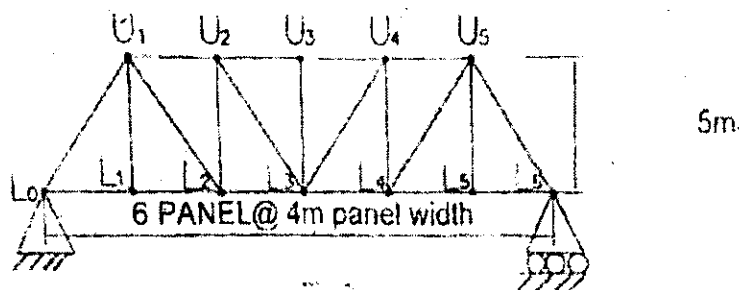

Figure 4
1. Draw the influence line diagram for forces in members  $U_3L_3$  and  $U_1L_1$  for the pin jointed truss shown in Figure 4. There are 6 panels of 4 m span each and height of truss is 5 m.